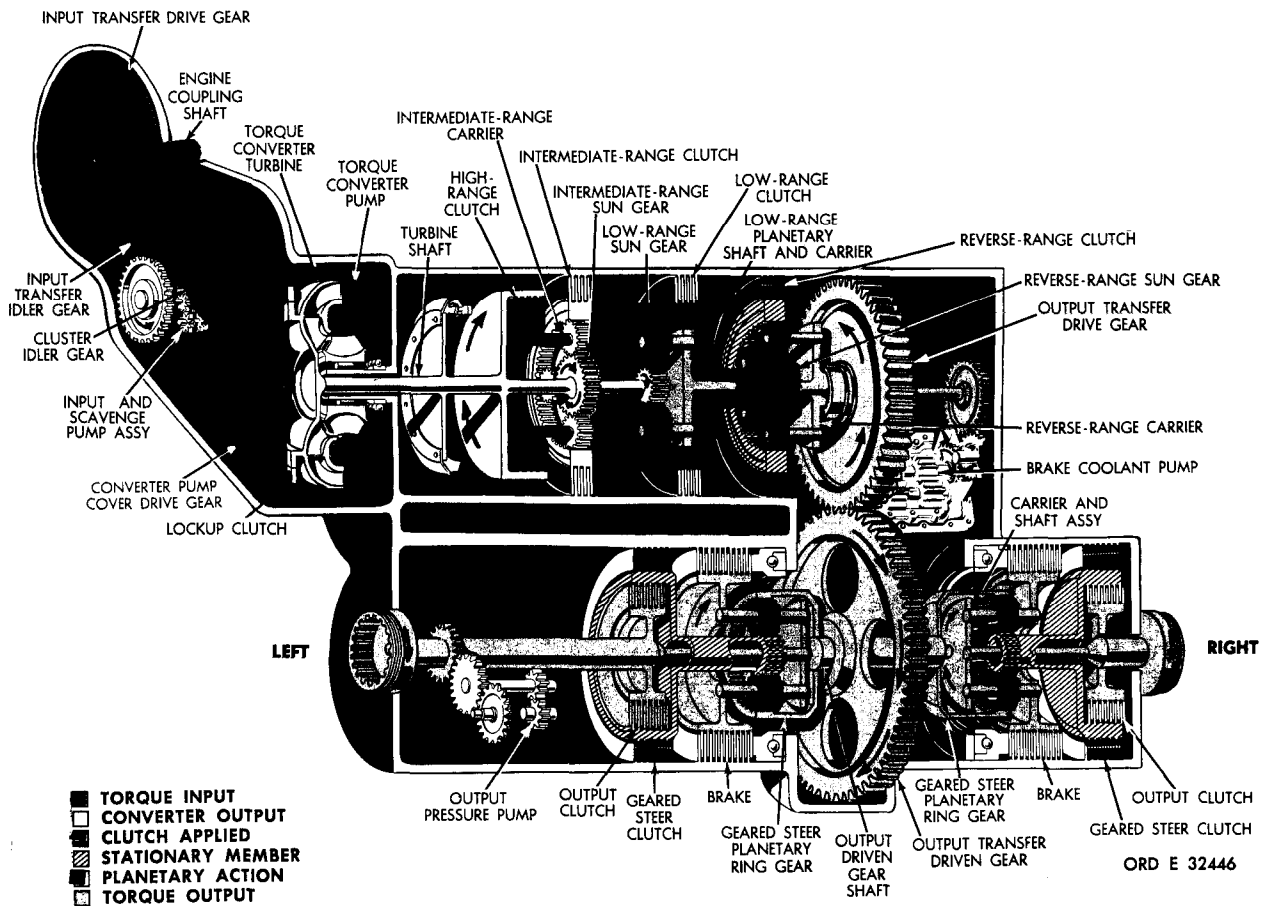

Figure 27. Reverse 1-gear torque path, converter operation
**51. TORQUE PATH - REVERSE 1 GEAR, CONVERTER OPERATION (fig. 27)**